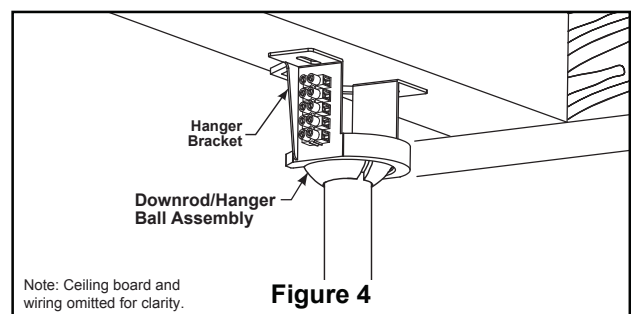

Figure 4
2. Carefully lift the fan and seat the downrod/hanger ball assembly on the hanger bracket that was just attached to the timber batten. Be sure the groove in the ball is lined up with tab on the hanger bracket. (Figure 4)